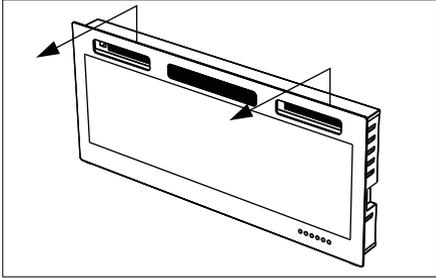

fig.1
1. Remove the glass panel from the fireplace and place it in a soft and clean location.(fig.1)
3. Remove the glass panel from the fireplace and place it in a soft and clean location.(fig.1)